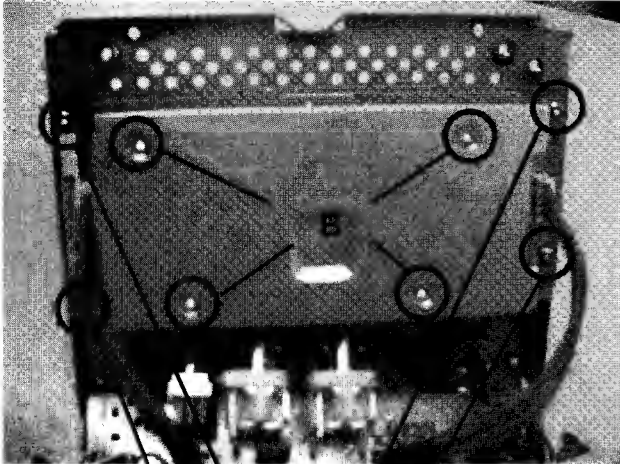

Fig.11
3. Take out 4 screws A (Fig. 11).